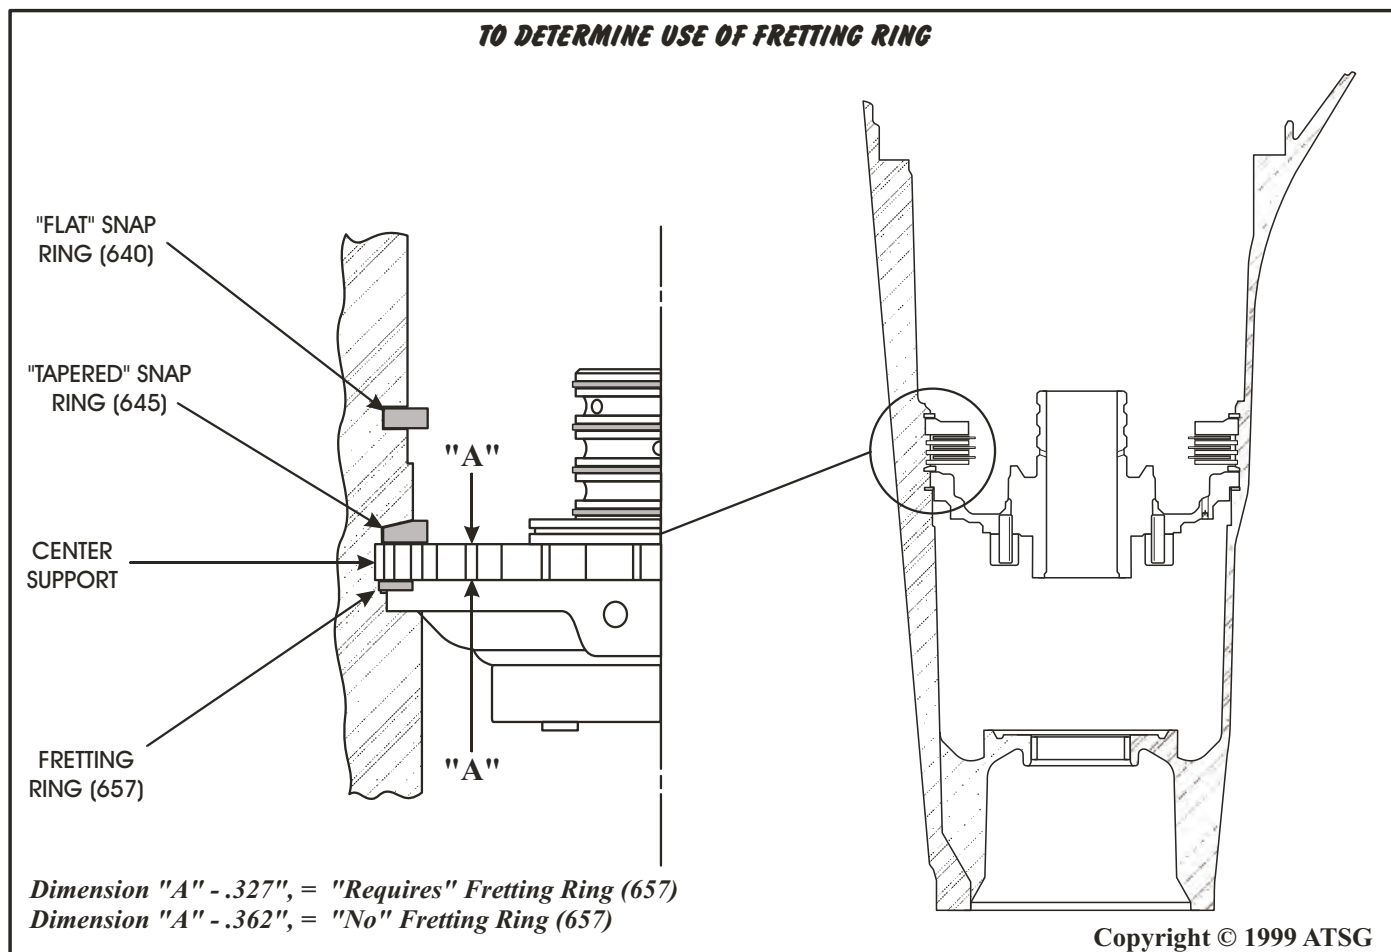

Figure 106
Note: Use of the fretting snap ring (657) is determined by the thickness of the lug area on the center support. The cases are the same this area. Refer to Figure 106 to determine whether your center support requires the fretting snap ring (657), and proper location in the transmission case.